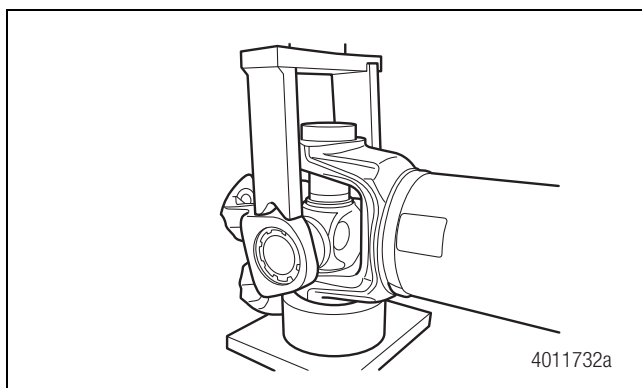

Figure 4.52
9. Install the press bridge tool on the ears of the drive flange and use a press to press DOWN. Figure 4.52.